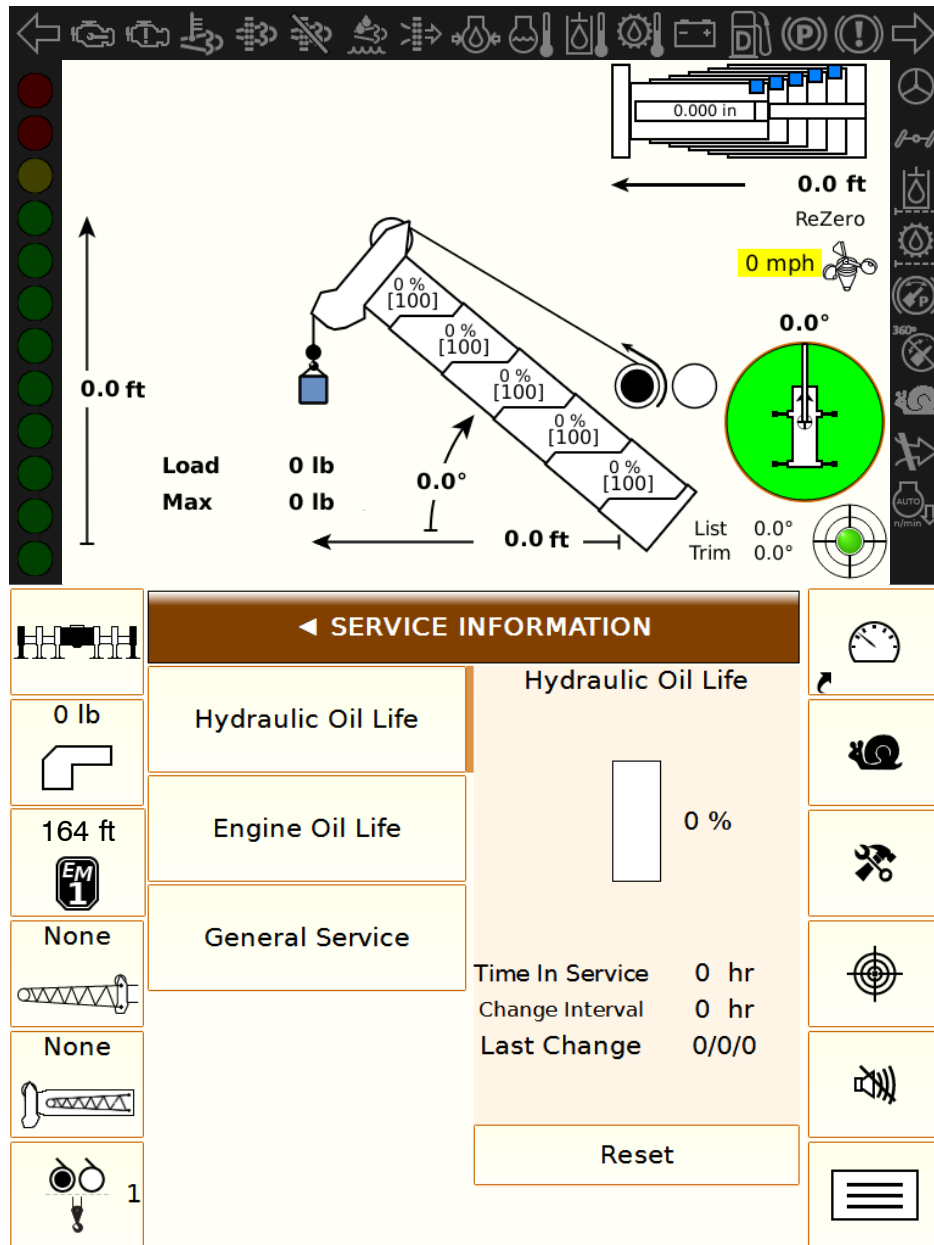

Figure 1–152
1. From the Main Menu Screen, press the Diagnostics Button . Refer to Figure 1–89.